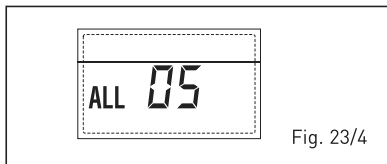

Fig. 23/4
- FLAME BLOCK ALARM 06 (fig. 23/5)